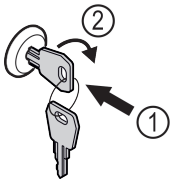

Fig. 126
- ▶ Insert key Fig. 126 (1).
- ▶ Turn key clockwise by 90° Fig. 126 (2).